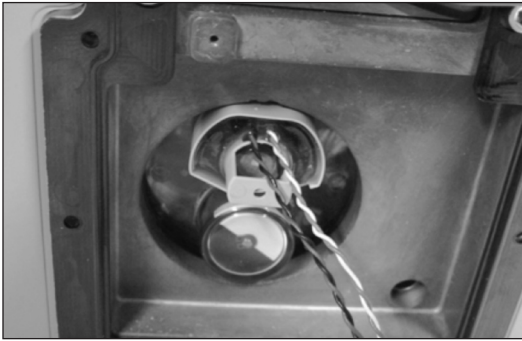

Figure 9.18 - Place Weigand into compartment
- Place the Wiegand assembly into the location shown in Figure 9.18. Push the Wiegand assembly all the way onto the amber colored cover.